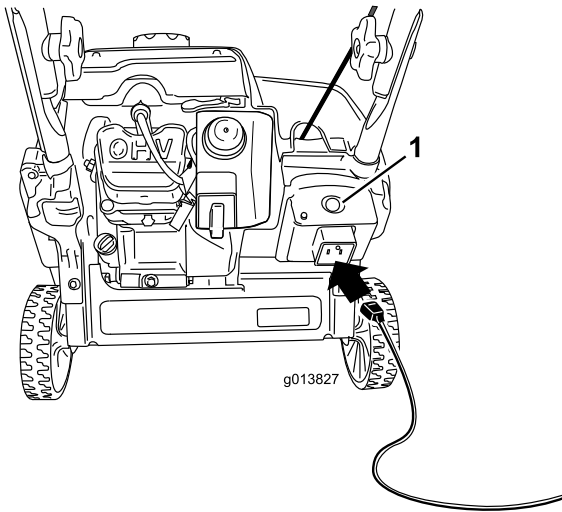
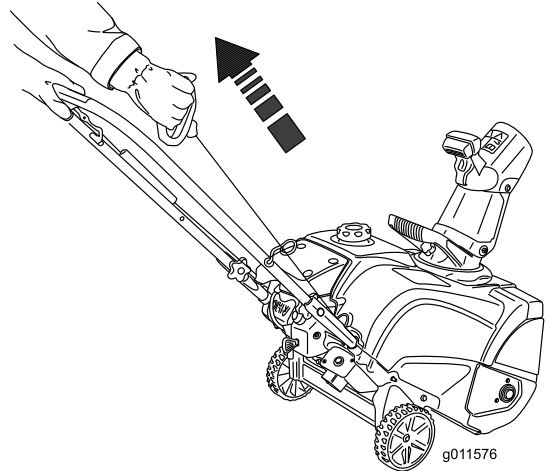

Figure 15
Figure 16
4. Connect an extension cord to a power source and the machine, and push the electric-start button (electric start only) as shown in Figure 15, or pull the recoil-start handle (Figure 16).